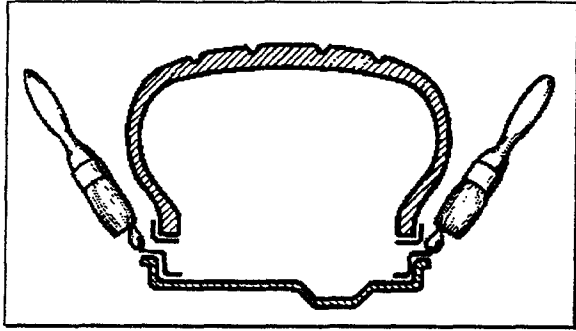

Fig.44
4. Lubricate both beads and the rim surface (Fig.44).